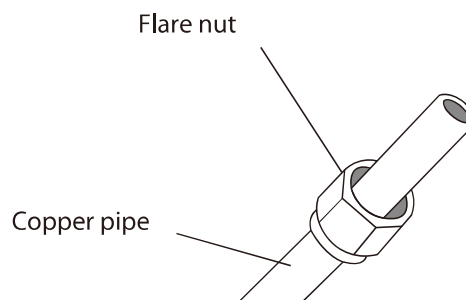

Fig. 5.3
3. Place flare nuts on both ends of pipe. Make sure they are facing in the right direction, because you can't put them on or change their direction after flaring. See Fig. 5.3 .